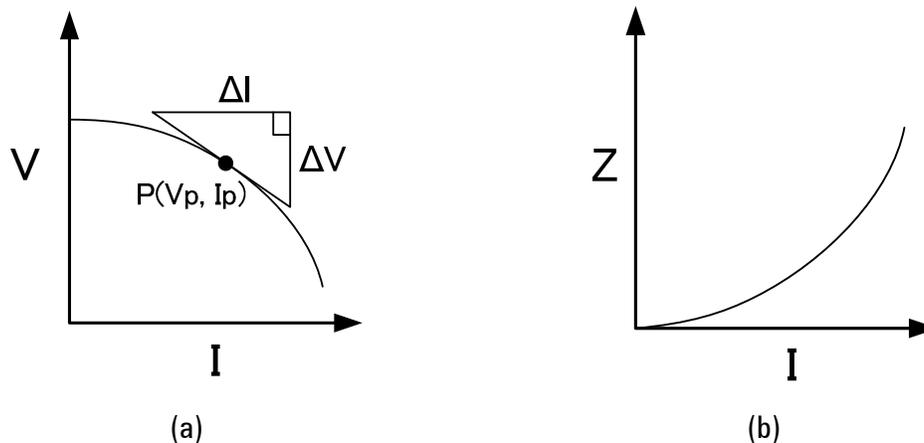

Figure 1 I-V characteristics of a battery cell and its transformation function into Z-I plane
Simplified I-V characteristics of a battery cell is shown in Figure 1. When you draw a tangent line at an operating point P in Figure 1 (a), its slope ($\Delta V / \Delta I$) is the impedance Z of the device at the point $P(V_p, I_p)$.
As shown above, Z and Y are the function of V or I . Using this fact, the I-V characteristics is transformed into the Z-I (impedance-current) plane as shown in Figure 1 (b). Thus, the I-V characteristics can be expressed by using the Z-I, V-Y, or their combination. For very high impedance, conductance (Y) can be used. In this case, zero impedance ($Z=0, Y=\infty$) gives the constant voltage, and zero admittance ($Y=0, Z=\infty$) gives the constant current.